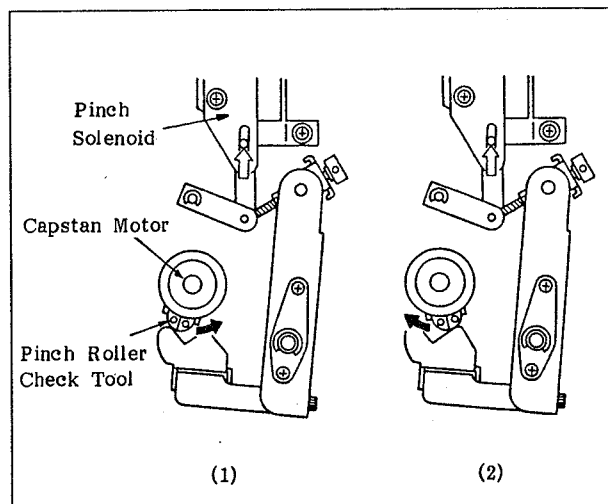

Fig. 6-89 Fine Adjustment of the Pinch Roller Plate Azimuth
- d. Set the pinch roller check tool in the position shown in Figure 6-89(1). Slide the tool in the direction of the black arrow while slightly pressing the pinch solenoid. Make a note of how the lights work at this time. (For instance, "the red lamp lights, and then the green lamp lights.")
- e. Set the pinch roller check tool in the position shown in Figure 6-89(2). Slide the tool in the direction of the black arrow while slightly pressing the pinch solenoid. Check that the lamps light in the reverse order of step d. When they do, go to step g. If they do not, make the following adjustment.